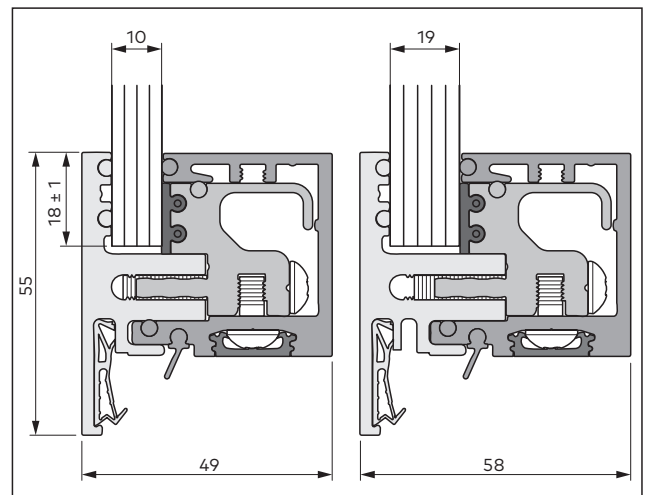

Fig. 12 Dimensions of the mounted door frame for side panels of 10 - 19 mm glass thickness
- Glass bite in the door frame 18 mm ± 1 mm (Fig. 12)